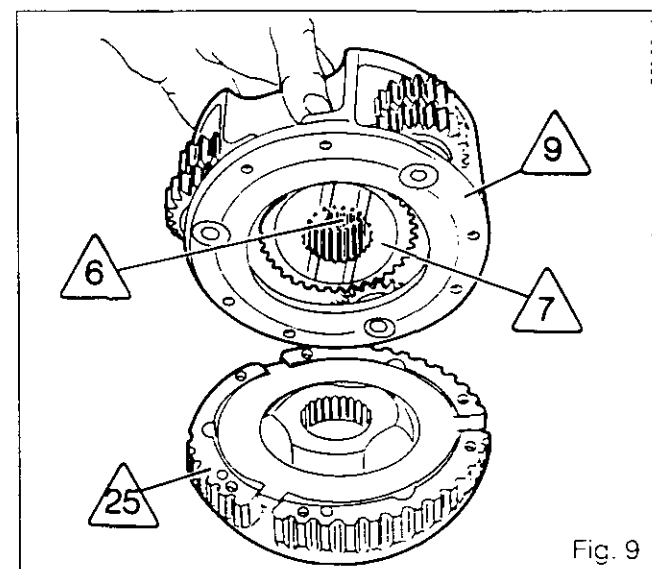

Fig. 9
24. Place the planetary carrier assembly (50) down on a bench (with the planetary carrier cover /9\ on top).
25. Unscrew bolts (3).
26. Separate planetary carrier cover /9\ from hydraulic cover /25\ while holding sun gears /6\ and /7\ in position in planetary carrier cover (Fig.9).